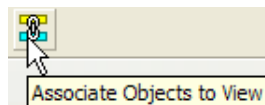

*Figure 11: Volume by Two Points Ribbon*
16. In the ribbon bar, enter 'U01 2 Points' in the Name field as shown in Figure 11.